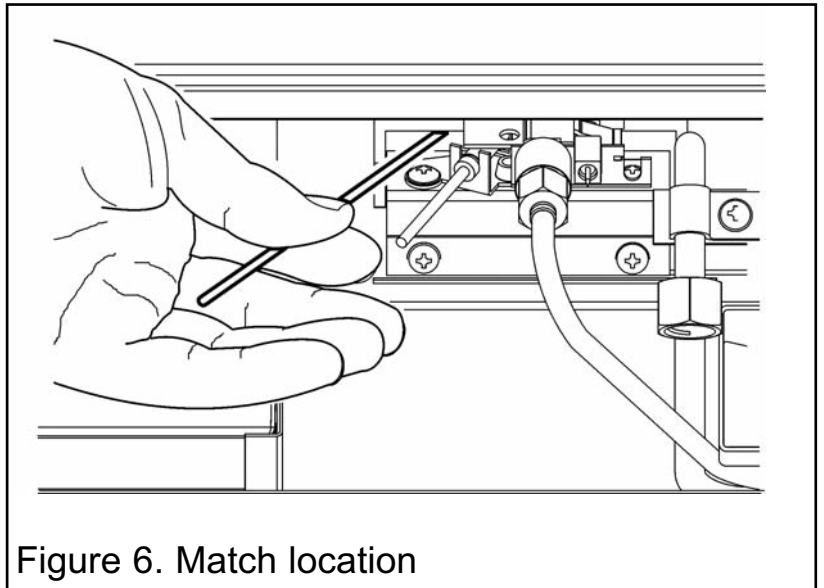

Figure 6. Match location
- Fully push down the manual pilot valve operator using the end of a pencil or similar and hold in to start pilot gas flow. Immediately light the pilot with a long match held at 45° at the left hand side of the pilot (See figure 6), while continuing to hold in the manual pilot valve operator for about ten (10) seconds after the pilot is lit. Release manual pilot valve operator. If pilot does not stay lit, repeat steps 2 through 7.